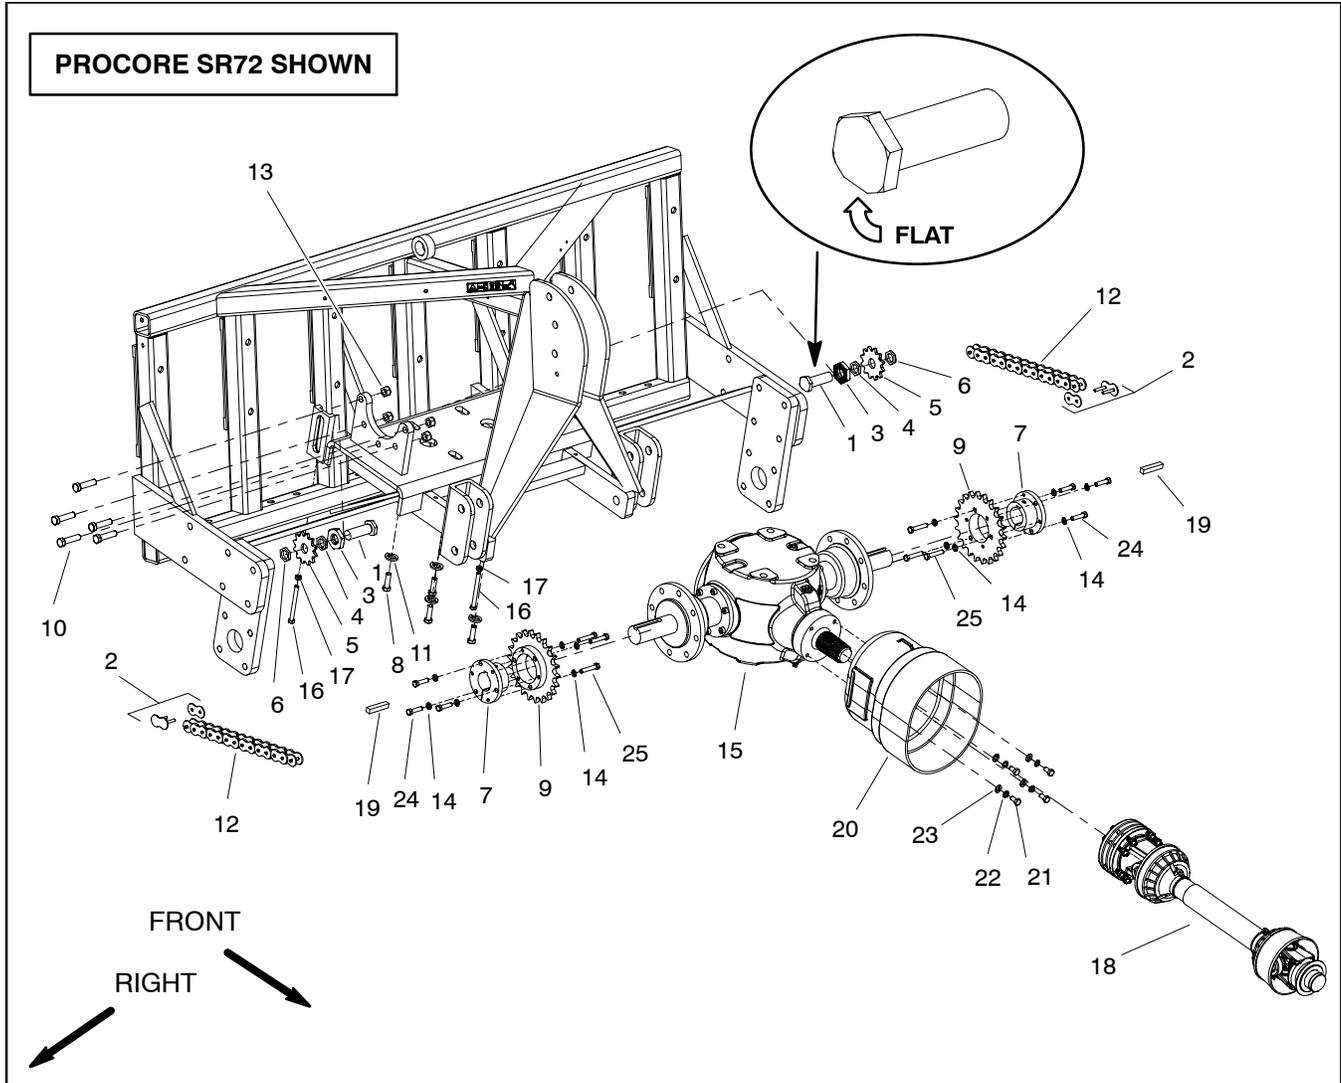

Figure 16
NOTE: The drive chain assemblies for ProCore SR48 and SR72 series aerators are very similar. The ProCore SR72 is shown in Figure 16.
Disassembly (Fig. 16)
8. If necessary, remove idler assembly using Figure 16 as a guide.
Assembly (Fig. 16)
3. If idler assembly parts were removed from frame, install idler components using Figure 16 as a guide. Make sure that flat on head of idler shaft (item 1) is positioned toward location of adjustment bolt (item 16). Do not fully tighten grooved jam nut (item 3) at this time.